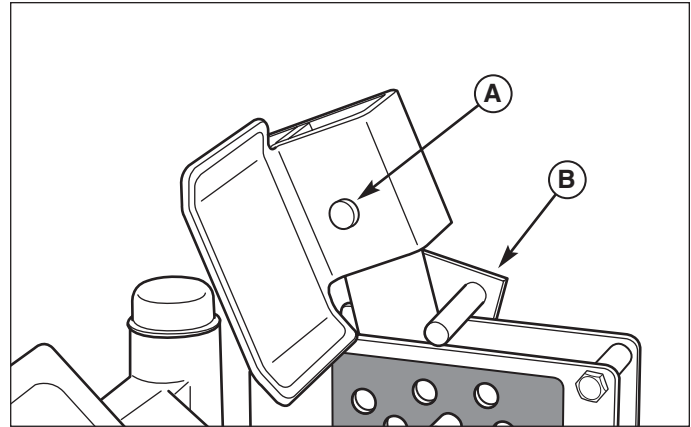

Figure 45. Remove Lift Pedal
2. See Figure 45. Remove the hairpin clip and clevis pin and remove the deck lift foot pedal. Lift the floor plate to gain access to the PTO drive belt.
9. Lower the floor pan and reinstall the deck lift foot pedal, clevis pin and hairpin clip. Make sure the deck lift lock bar is located as shown in Figure 45.